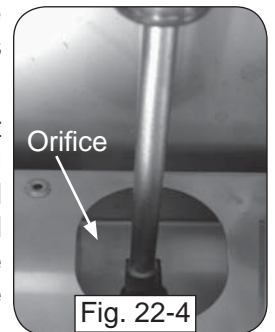

Fig. 22-4
5. Use a  $\frac{3}{8}$ " hex nut driver to remove the exposed orifice (Fig. 22-4) and replace it with the correct orifice for the new gas. (See Table 1 at the beginning of this document for orifice sizes.)